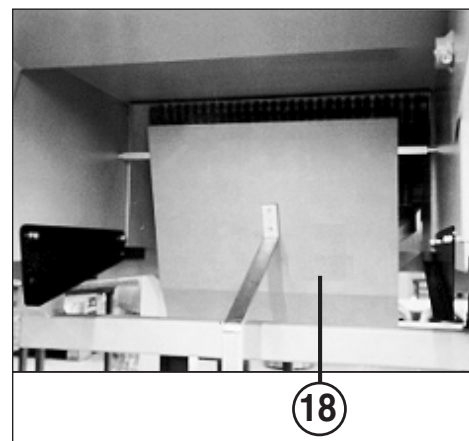

Fig. 3
- is the **switch flap (18)** (fig. 3) for the „shredder bin full“ indicator easy to move?